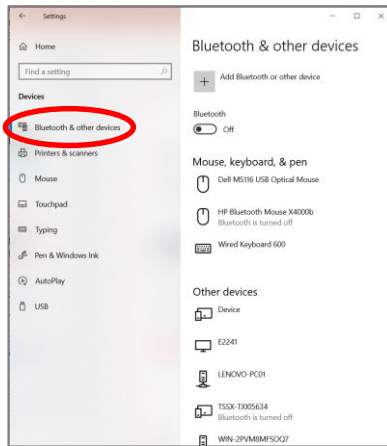

Figure 1
1. Navigate to **Settings / Devices** and select the **Bluetooth & other devices** option (Figure 1)